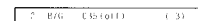

Fig. 25.
- 5 Fine-tune the channel with Δ + or ∇ - so that you get the best TV reception. As you press the cursor buttons, the frequency changes from -15 to +15. (See Fig. 25.)